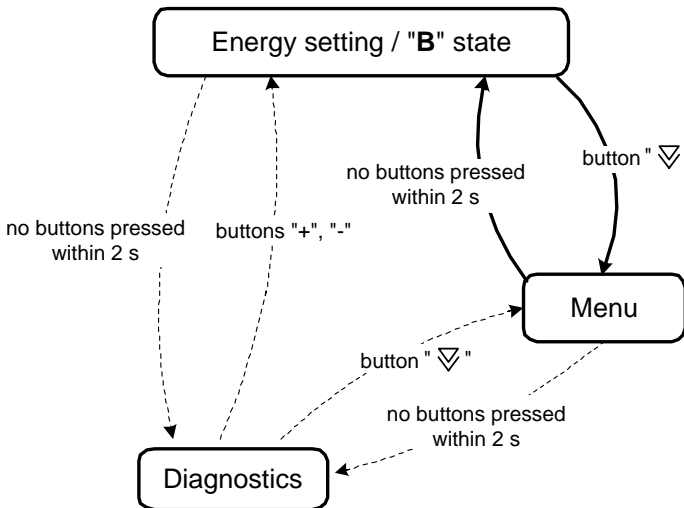

Fig. 4
6.2 A chart of the device's basic states is illustrated in the Fig. 4 (dotted lines mean that the Diagnostics is ON).